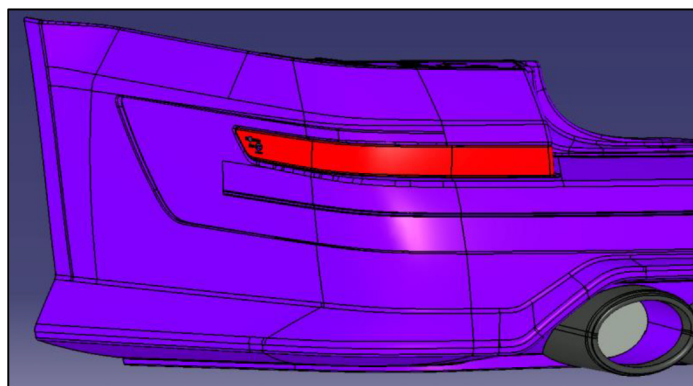

Fig 5: Reflector in ABT rear skirt
20. Carefully install the standard reflectors in reverse order of removal into the ABT rear skirt (Fig. 5).